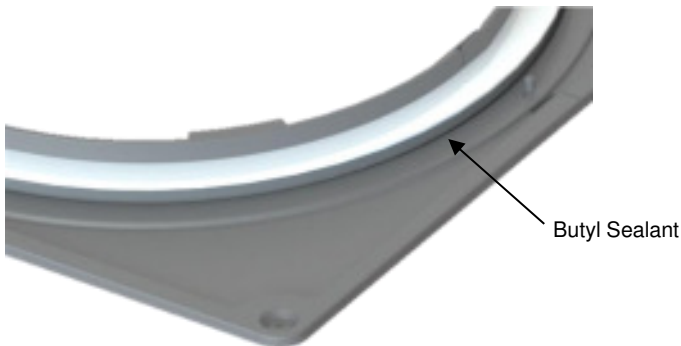

Figure 5
- 2.) With the white tape upward, apply approximately 77” of butyl sealant rope around the perimeter of the adapter flange where the riser pipe will meet the flange (Fig.5). Cut off remaining butyl sealant & set aside for further steps. Overlap and knead the ends of the butyl rope together to ensure a water-tight seal.